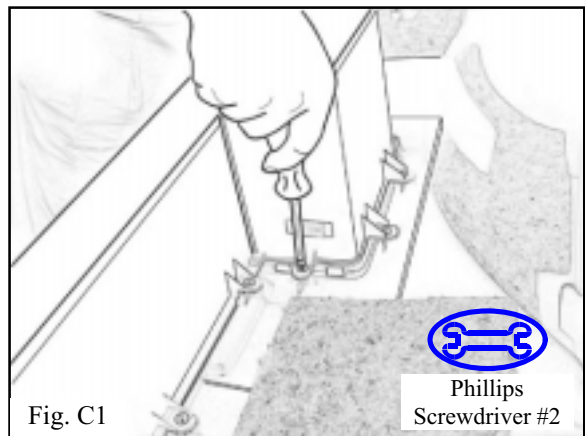

Fig. C1
- i. Remove the six (6) factory screws holding the storage box. (Fig. C1)
- ii. Retain the six (6) screws for later use.